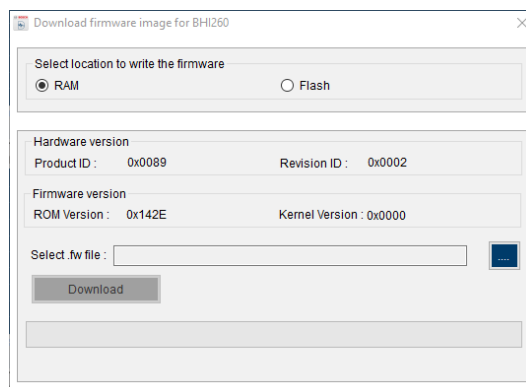

Figure 2 RAM patch download dialog
- Launch DD2.0 SW and DD2.0 will automatically recognize the BHI260AB shuttle board. A dialog window will be popped up asking to download the RAM patch as shown in Figure 2.